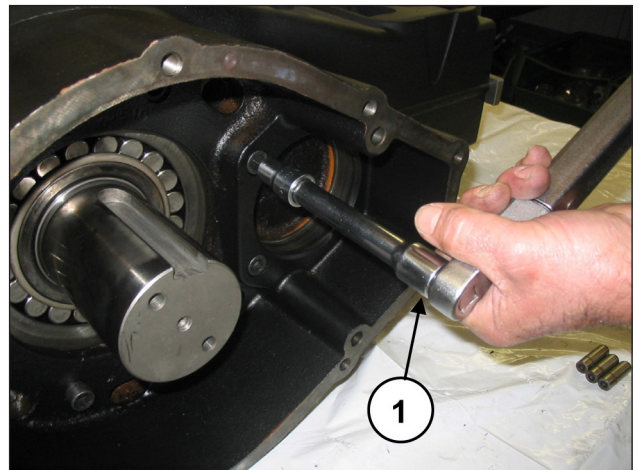

Fig. 48
Calibrate the screws with a torque wrench (pos. ①, Fig. 48) as indicated in chapter 3.